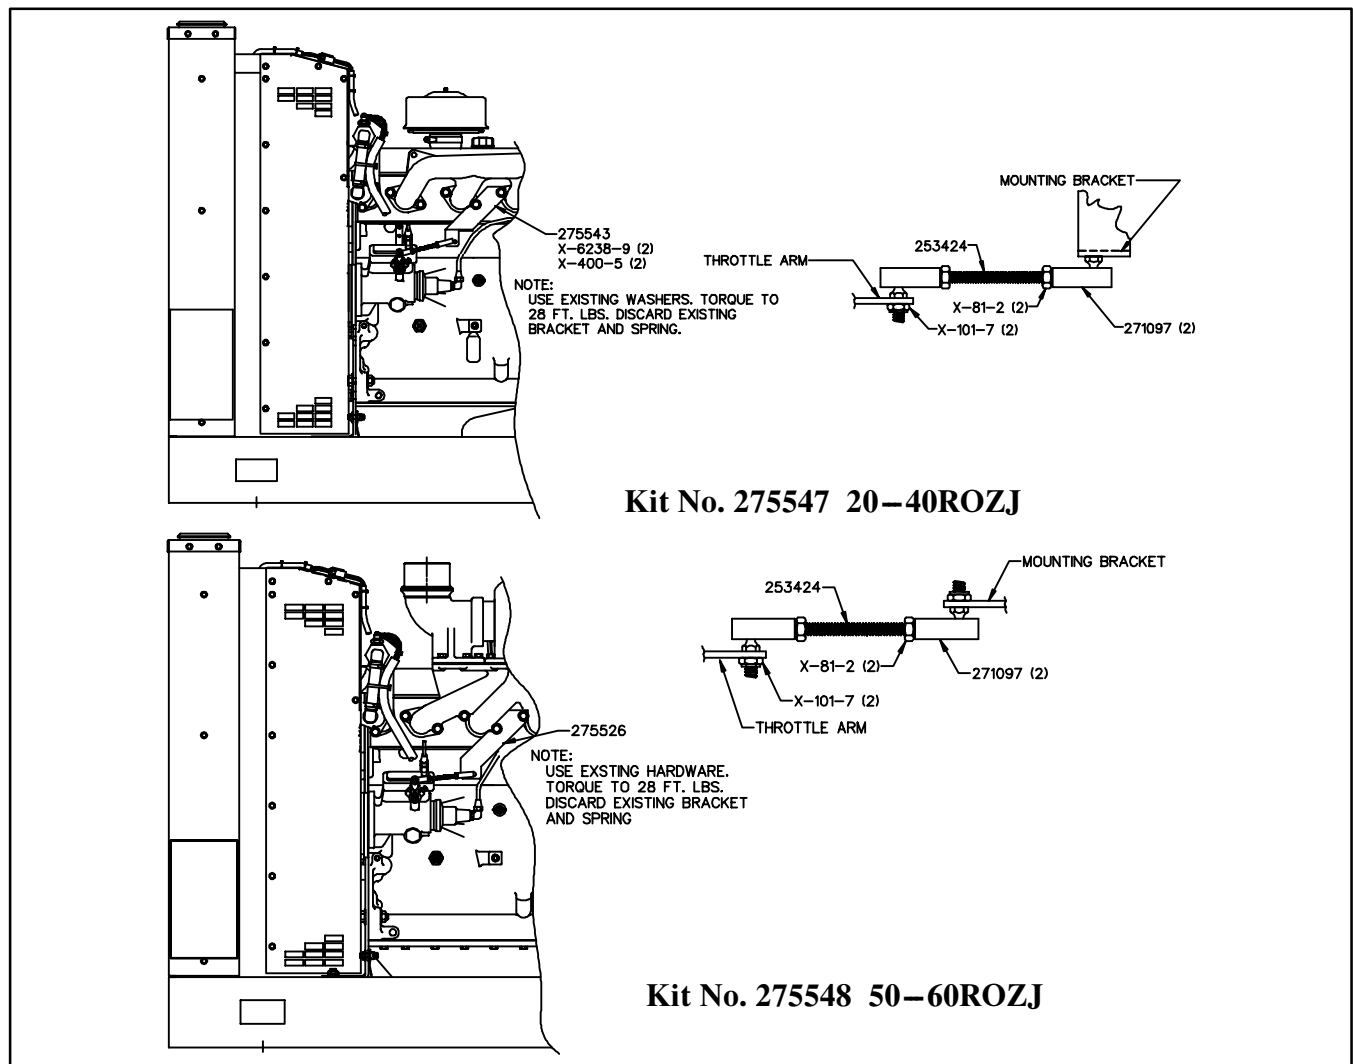
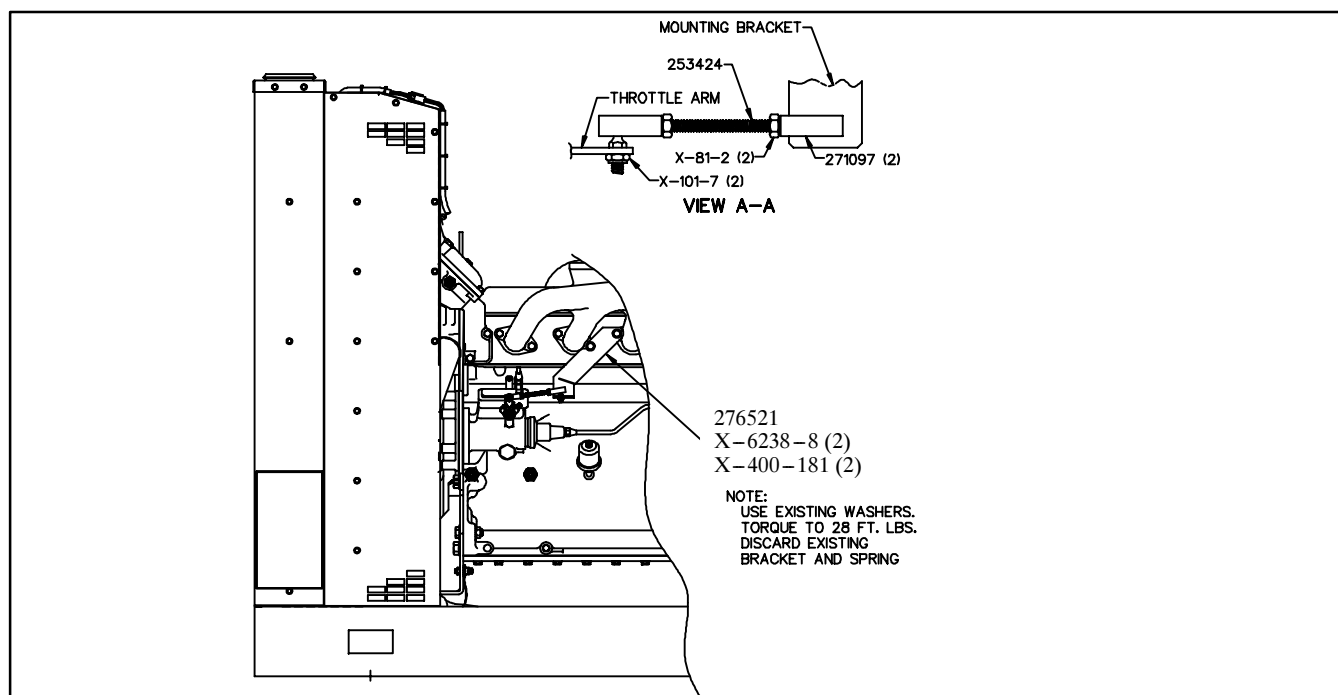

Figure 1. Throttle Repair Kits for 20–60ROZJ
Figure 2. Throttle Repair Kit 275549 for 80–100ROZJ
- a. Remove hardware securing spring bracket to engine block. Remove and discard spring bracket. Reference the appropriate installation drawing in Figure 1 or Figure 2 to determine what hardware should be retained for installation of new bracket.
- c. Assemble rod and ball joint linkage as shown in installation drawing. Attach linkage to governor throttle lever with hardware indicated in Figure 1 or Figure 2. Do not connect linkage to mounting bracket until next step.